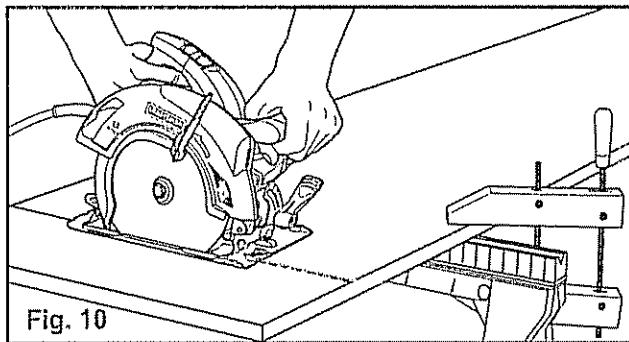

Fig. 10
STARTING A CUT (Fig. 10)
1. **ALWAYS** use your saw with your hands positioned correctly, with one hand operating the trigger switch and the other on the front assist handle (see Fig. 10).
6. Before starting a cut, draw a guideline along the desired line of cut, then place the front edge of the saw base on that part of the workpiece that is solidly supported (see Fig. 10).
9. Hold the saw firmly with both hands (see Fig 10).